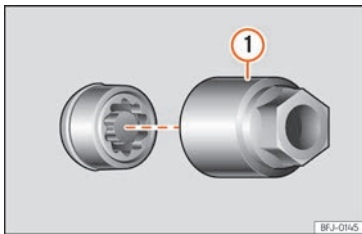

Fig. 218 Anti-theft wheel bolt with cap and adapter.
- Insert the special adapter >>> Fig. 218 ① (vehicle tools >>> page 284) onto the anti-theft wheel bolt and push it on as far as it will go.